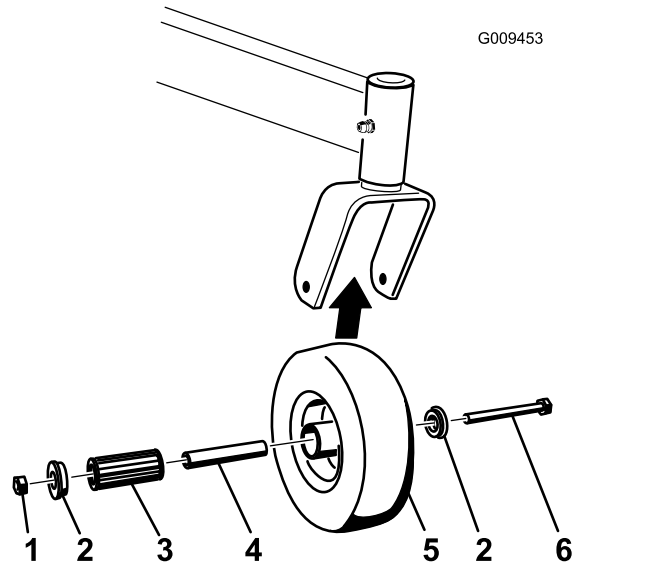

Figure 34
1. Remove the locknut and wheel bolt holding the caster wheel to the caster fork (Figure 34).
2. Remove 1 bushing, then pull the spanner bushing and roller bearing out of the wheel hub (Figure 34).
3. Remove the other bushing from the wheel hub and clean any grease and dirt from the wheel hub (Figure 34).
Note: Replace any damaged or worn parts (Figure 34).
5. Place 1 bushing into the wheel hub (Figure 34).
6. Grease the roller bearing and spanner bushing, and slide them into the wheel hub (Figure 34).
7. Place the second bushing into the wheel hub (Figure 34).
8. Install the caster wheel into the caster fork and secure it with the wheel bolt and locknut (Figure 34).
9. Tighten the locknut until the spanner bushing bottoms against the inside of the caster forks (Figure 34).